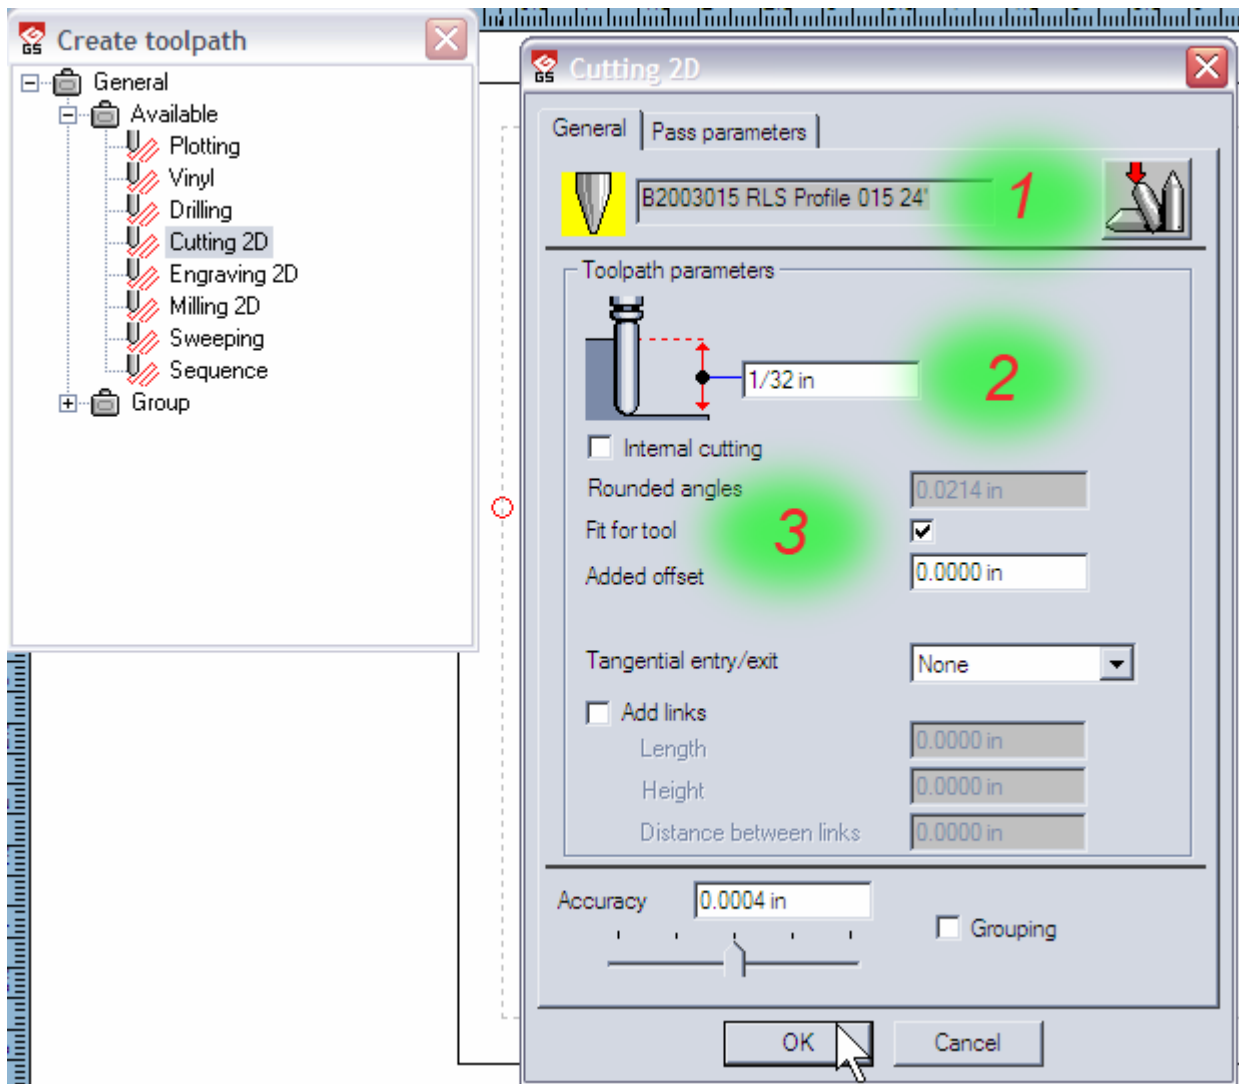

Figure 12-15 Cutting 2D Dialog Window
Our next task is to establish the toolpath for the symbol and the text. Remember, we want to cut through the top layer of the Gravo-Tac sandwich, outlining both of these elements. We'll do this by clicking on GravoStyle's CAM tab, at the bottom of the left toolbar, to enter the Machining Module. There, we'll open the listing of "Available" toolpath types and make our selection "Cutting 2D" (Figure 2-14). We'll double-click on this choice and the "Cutting 2D" dialog window will open (Figure 12-15)
In Figure 12-15, we’ll make just three settings in our dialog window:
1. We’ll click on the tool selection button at the top right of the window to open our catalog of tools. Figure 12-15 shows our choice: B2003015 RLS Profile 015 24. This is a narrow tool with a small tip angle.